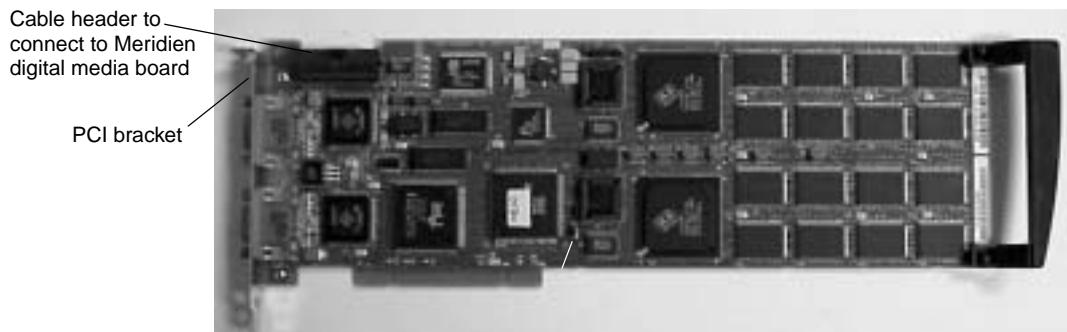

Figure 4-9 One of the Meridien Display Controller Boards
Avid now ships a new Meridien display controller board, EDC4. The new display controller board has EDC4 labeled on the top of the metal PCI bracket (see Figure 4-9). You can see the metal PCI bracket externally at the rear of the system. The previous display controller boards have no label and need a different driver than the EDC4. Drivers for the EDC4 and other display controller boards ship with the Avid software. Installing the correct software is explained in “Installing the EDC Display Controller Driver” on page 7-3.
Avid now ships a new Meridien display controller board, EDC4. The new display controller board has EDC4 labeled on the top of the metal PCI bracket (see Figure 4-9). You can see the metal PCI bracket externally at the rear of the system. The previous display controller boards have no label and need a different driver than the EDC4. Drivers for the EDC4 and other display controller boards ship with the Avid software. Installing the correct software is explained in “Installing the Display Controller Board Driver” on page 7-6.
3. Attach one end of the cable (explained in “Installing the Meridien II Digital Media Board Set” on page 4-13) to the display controller board cable header (see Figure 4-9), and the other end to the Meridien digital media board set. Each end of the cable is keyed to facilitate proper installation.